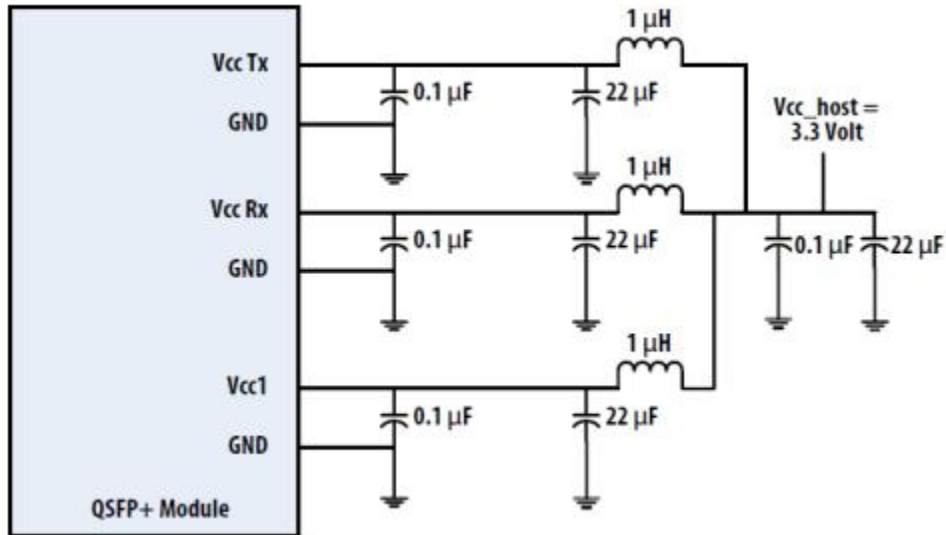

Figure 3. Recommended Power Supply Filter
- 2.VccRx, Vcc1 and VccTx are the receiver and transmitter power suppliers and shall be applied concurrently. Recommended host board power supply filtering is shown in Figure 3 below. Vcc Rx, Vcc1 and VccTx may be internally connected within the QSFP+ transceiver module in any combination. The connector pins are each rated for a maximum current of 500mA.